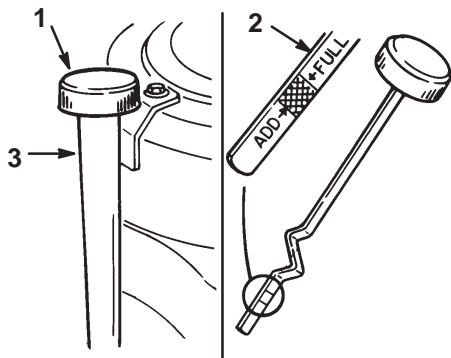

Figure 18
3. Clean around the oil dipstick (Fig. 18) so dirt cannot fall into the filler hole and damage the engine.
4. Unscrew the oil dipstick and wipe the metal end clean (Fig. 18).
5. Screw the oil dipstick fully onto the filler tube (Fig. 18). Unscrew the dipstick again and look at the metal end. If the oil level is low, slowly pour only enough oil into the filler tube to raise the level to the Full mark. Tighten the dipstick.
7. Slowly pour approximately 80% of the specified amount of oil into the filler tube (Fig. 18). Check the oil level; refer to Checking the Oil Level, page 20. Slowly add additional oil to bring the level to the Full mark on the dipstick.